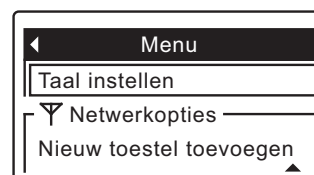

FIG. 57
From the rolling status screens, press SELECT (○). Press DOWN (▼) to scroll through the list until the line immediately **above** the antenna (Y) symbol is highlighted (See Figure 57), then press SELECT (○). Press UP (▲) to scroll to **English** at the top of the list, then press SELECT (○) twice. Press LEFT (◀) to exit the menu.